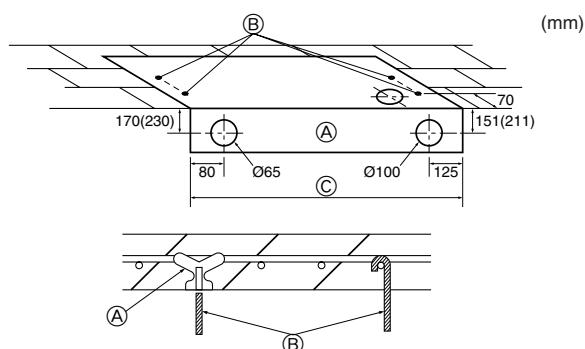

Fig. 3-3
3.2.3. Selection of suspension bolts and tubing positions (Fig. 3-3)